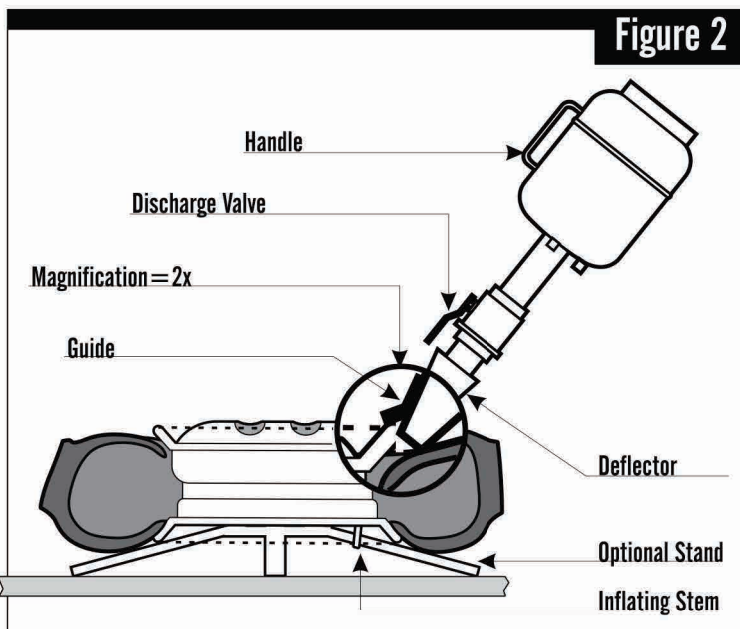

Figure 2
3. (Refer to Figure 2) Lay mounted tire flat on floor or ground with narrow bead up (inflating stem facing down) place stand under rim near inflating stem (Stand Optional).